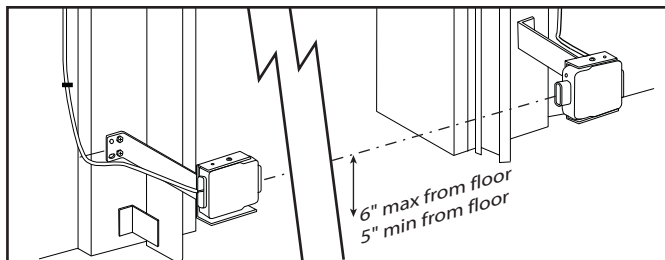

FIG. 5-4 Check Safe-T-Beam® Alignment.
#### Check Safe-T-Beam® alignment (Fig. 5-4).
- Insure that tops of lenses are between 5" - 6" above the floor (Fig. 5-4). The brackets are flexible, and can be adjusted slightly if needed.